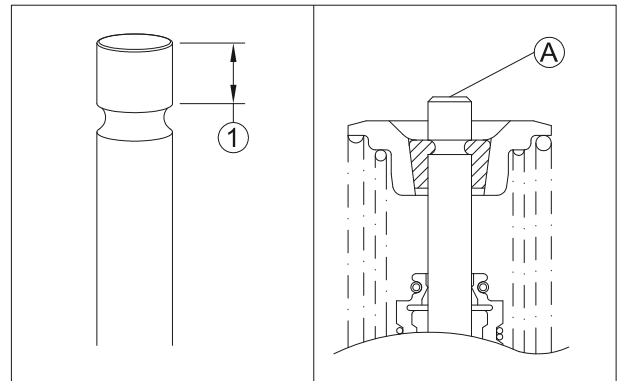

Fig. 3.120
- Inspect the valve stem end face (A) for pitting and wear. If pitting or wear noticed, resurface the valve stem end, provided the length (B) is not reduced to less than 3.8 mm. If this length becomes less than 3.8 mm, the valve must be replaced with a new one. (Fig. 3.120)